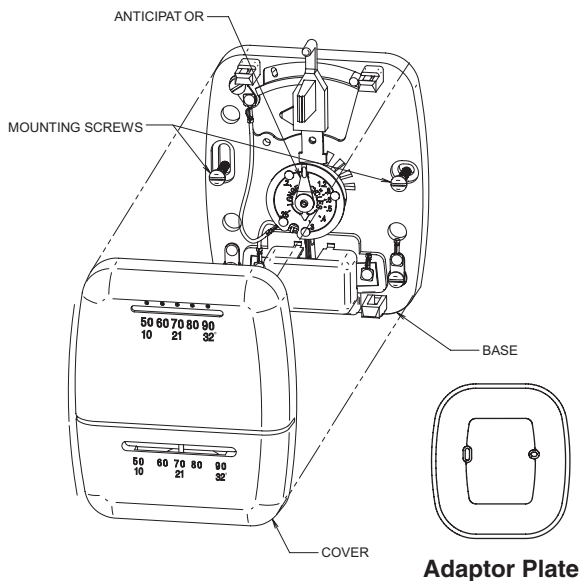

Figure 1.
- A. Mount base and adaptor plate:** Mount base to wall using screws provided (see Fig. 1).